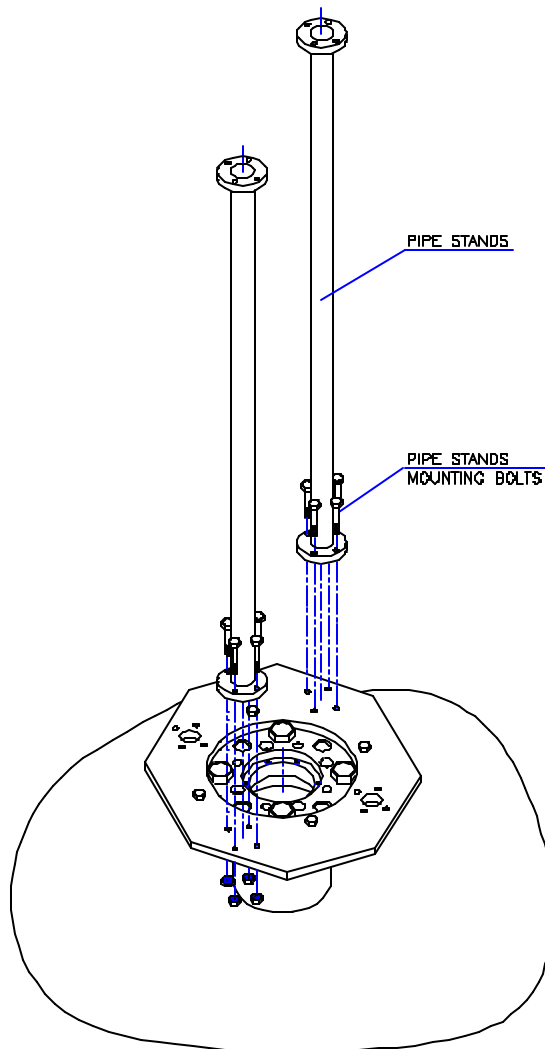

Figure 4
1. Place the end of the first **Pipe Stand** over one of the group of four holes, WITHOUT the larger central hole in the **IK Bottom Static Plate** (see *Figure 4*).